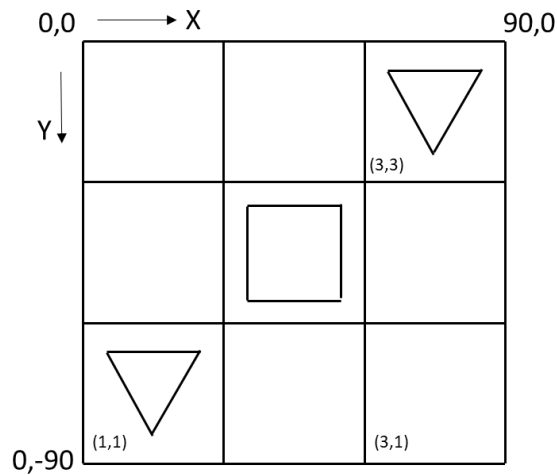

Figure 4: Drawing output showing grid coordinates and pen x,y coordinates
- Generate commands to draw shapes at the specified grid positions. Each shape should be drawn centred in that grid position with a size of 20mm. (Note: there is no requirement for the code to be able to draw the shapes at other sizes). This is shown in Figure 4. Note that, from the pen starting position, y coordinates are negative.